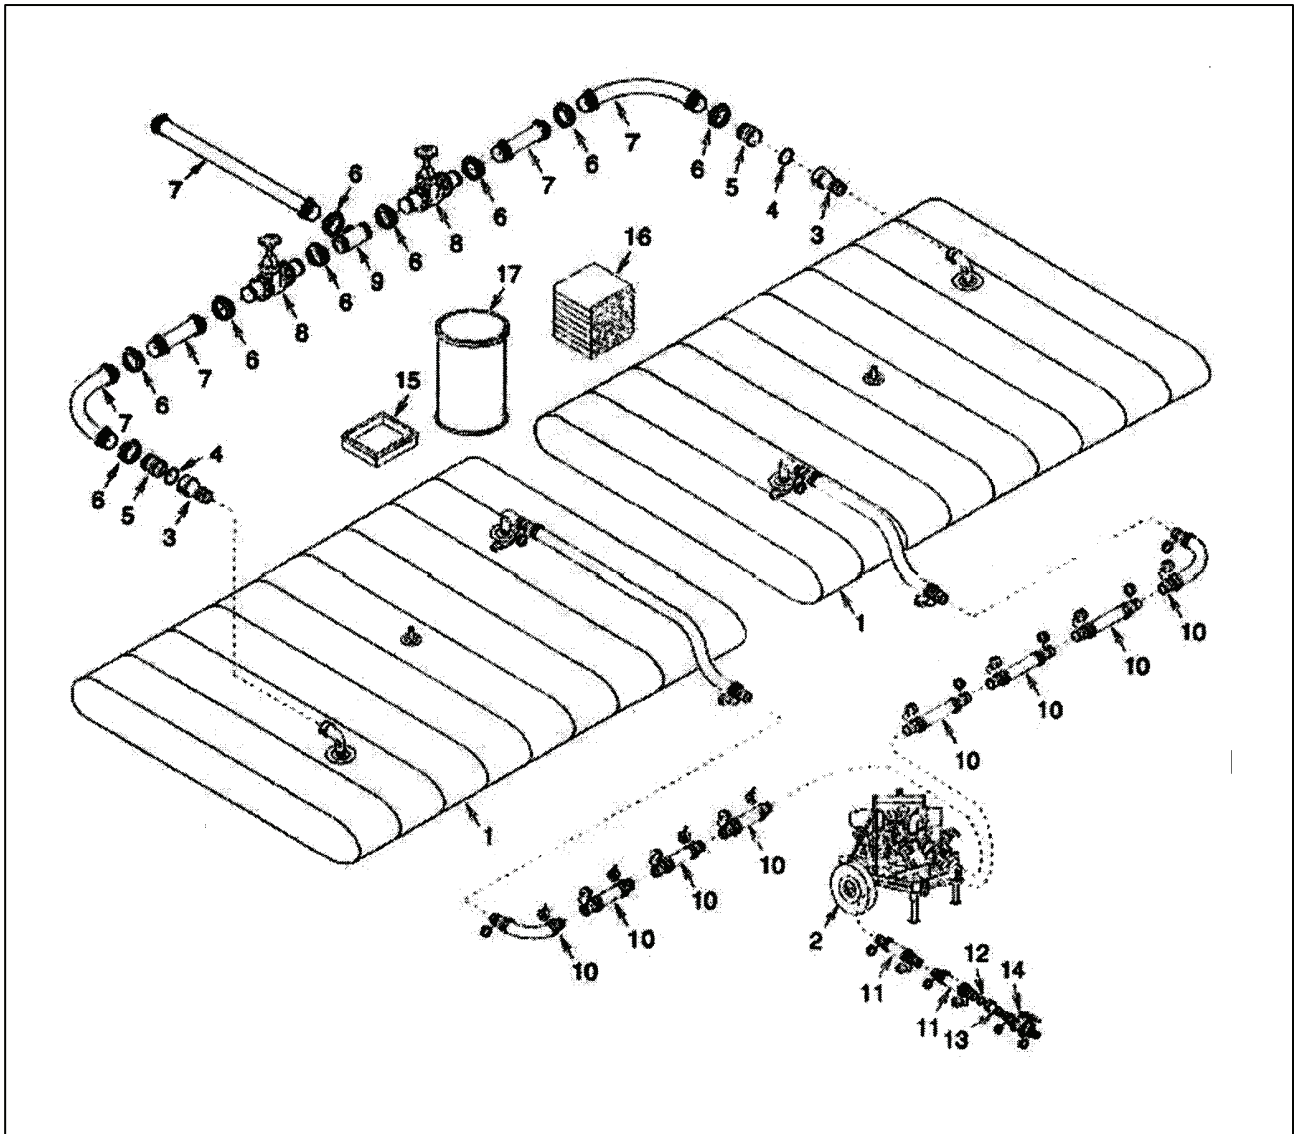

Figure 5
- i. On return manifold, connect discharge hose (5) between outlet side of meter strainer (6) and single to double groove adapter (9) using coupling clamps (1).
- j. Place four each, drip pan (10), two each absorbent oil material (11), and two each storage drum (12) where they will be available for use if needed.
13. Set up contaminated fuel module (Figure 5).
- a. Locate and install two each, 50,000 gallon collapsible fabric tanks (1) (Figure 5). Be sure that elbows, hoses, and valves supplied with tanks are installed.